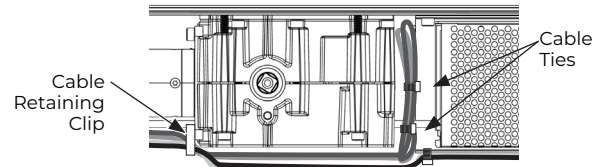

Figure 18
1. To prevent wire crimping, use the cable ties provided to neatly store loose wiring as shown. The power cabling to the connector board should be cable tied along the operator body. Any loose wire should be stored between the operator body and power supply. (Figure 18)